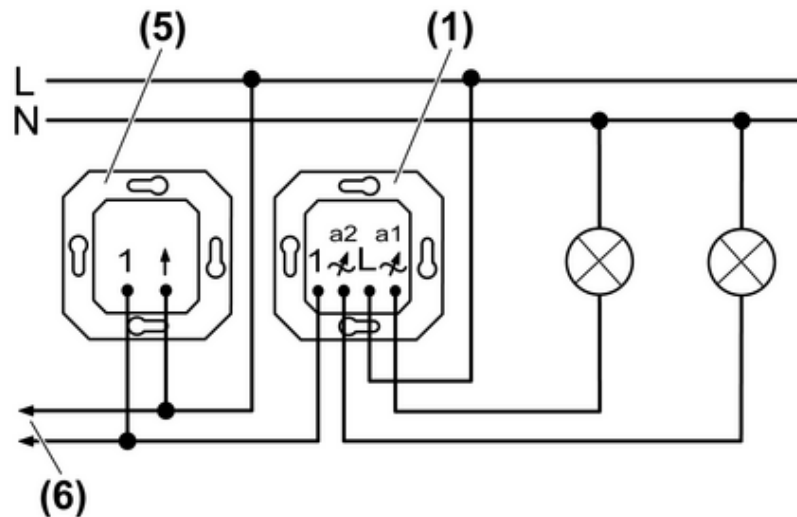

Figure 3: Connection diagram
- (1) Dimmer
- (5) 2-wire extension
- (6) to additional extensions
- Connect the dimmer according to the connection diagram (Figure 3).